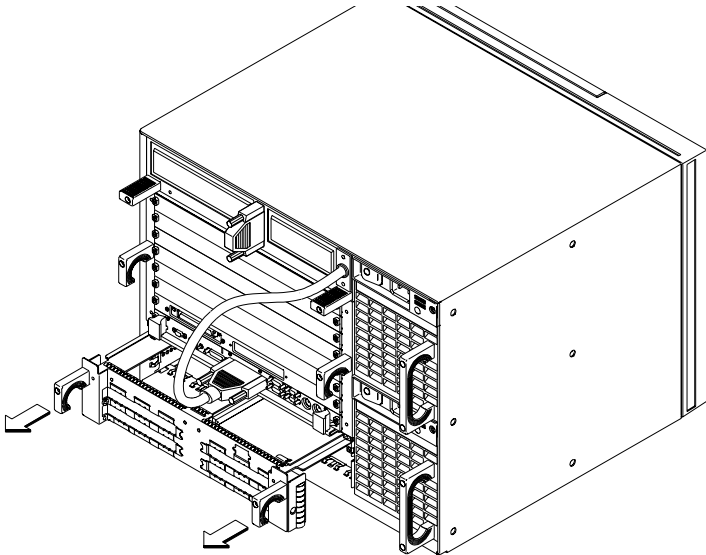

Figure 5-18
- 3 Slide out tray (see Figure 5-18).